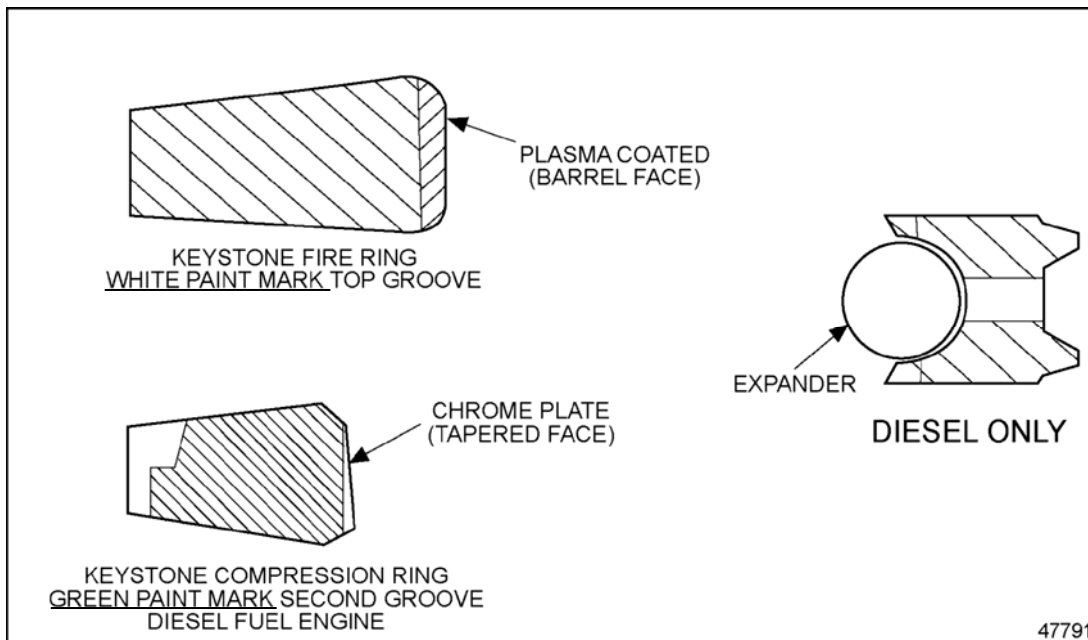
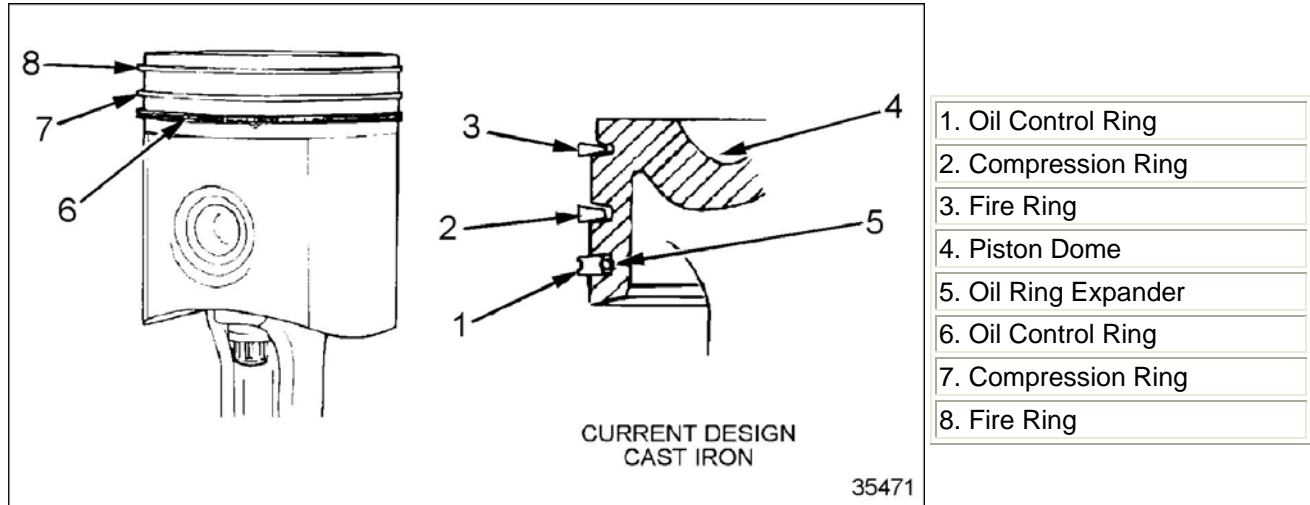
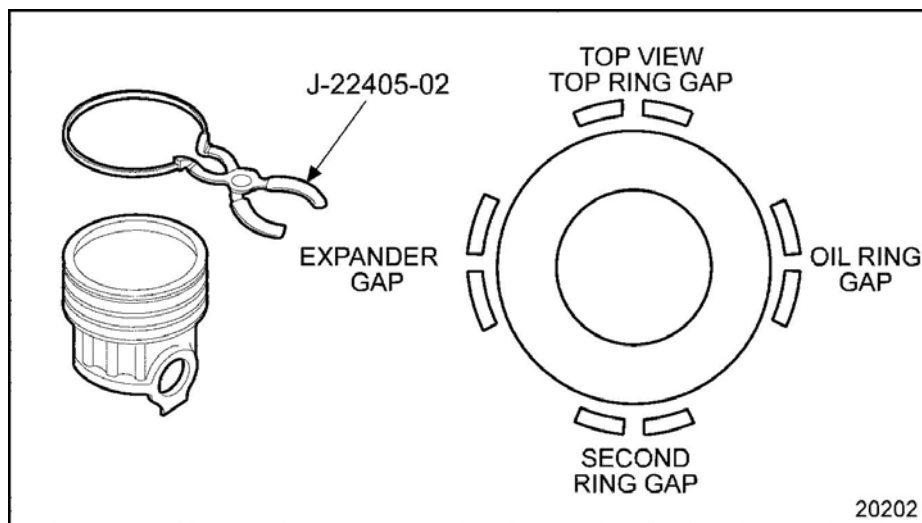

Figure 1
Figure 2
Figure 3
1. Install the oil expander then install the oil control ring. Ensure that the expander spring gap is located 180° from the oil control ring gap. There is a white paint mark on the expander (see figure 1), make sure that it is visible at the ring gap.
2. Install the compression ring into the second groove (see figure 2). The compression ring has a green paint on the outer edge (see figure 1). Make sure the identifying dimple on the ring is installed up, toward the dome of the piston. To aid installing the rings use tool #J-22405-02 or equivalent (see figure 3).
3. Install the fire ring into the top groove (see figure 2). It has a white paint mark on the outer edge. Make sure the identifying dimple on the rings is installed up, toward the dome of the piston. To aid installing the rings use tool #J-22405-02 or equivalent.
4. Stagger the ring gaps around the piston before installing the piston in the liner (see figure 3).